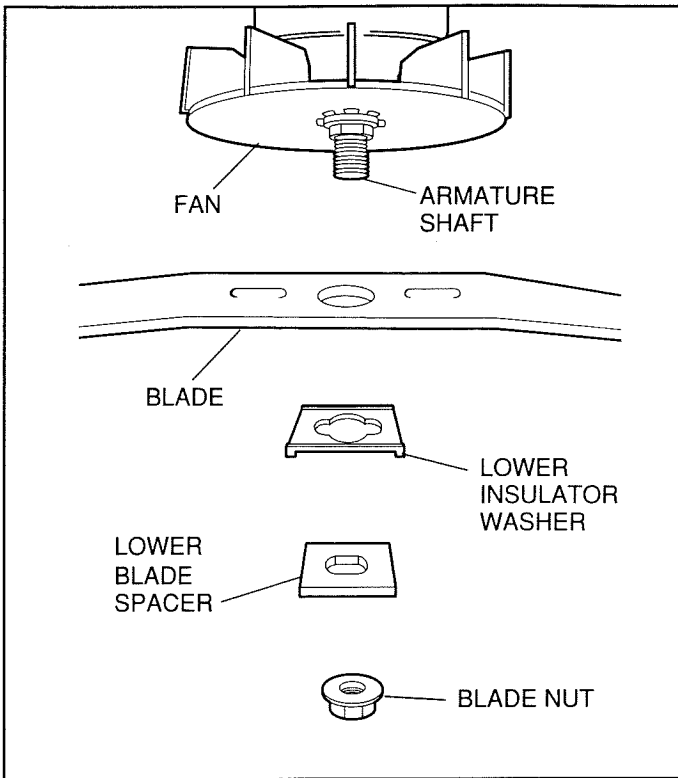

FIGURE 17
- Remove lower blade spacer, lower insulator washer and blade (Figure 17).